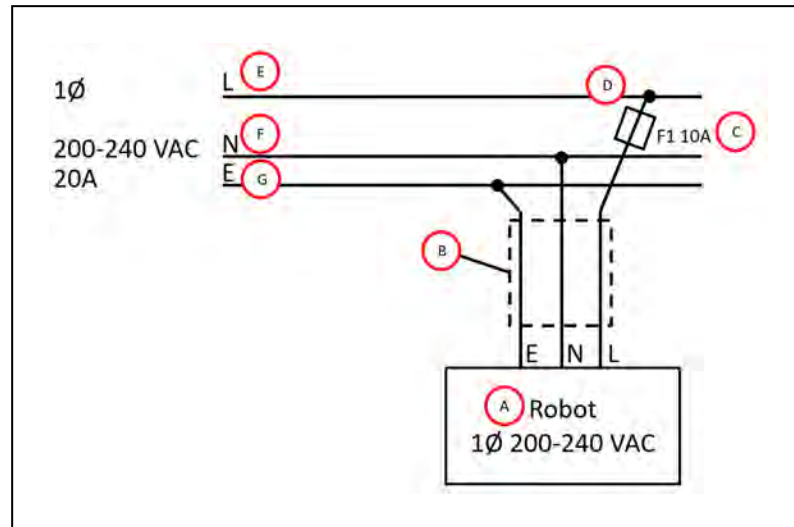

Figure 4-11. Typical AC Power Installation with Single-Phase Supply
**Additional Information:** The 24 VDC cable is not supplied with the system, but is available in the optional Power Cable kit (part number 04120-000) Refer to Basic System Cable Layout on page 63 for more information. See Figure 4-11.